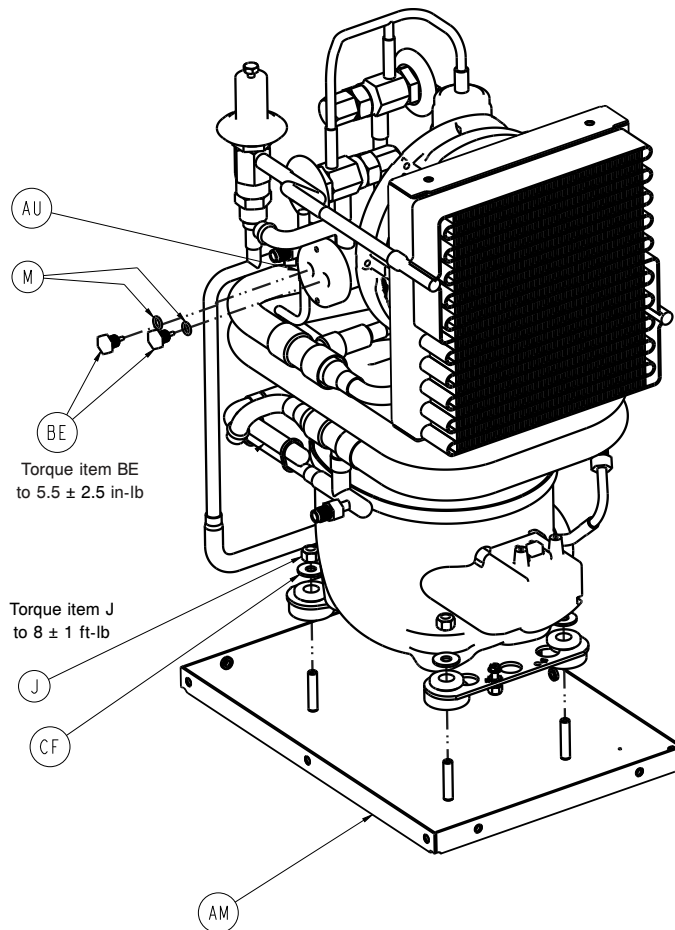

Figure 25 – Temperature probe
4. Using a utility knife, remove the insulation around the heater well to gain access to either temperature probes (BE) (Figure 25).